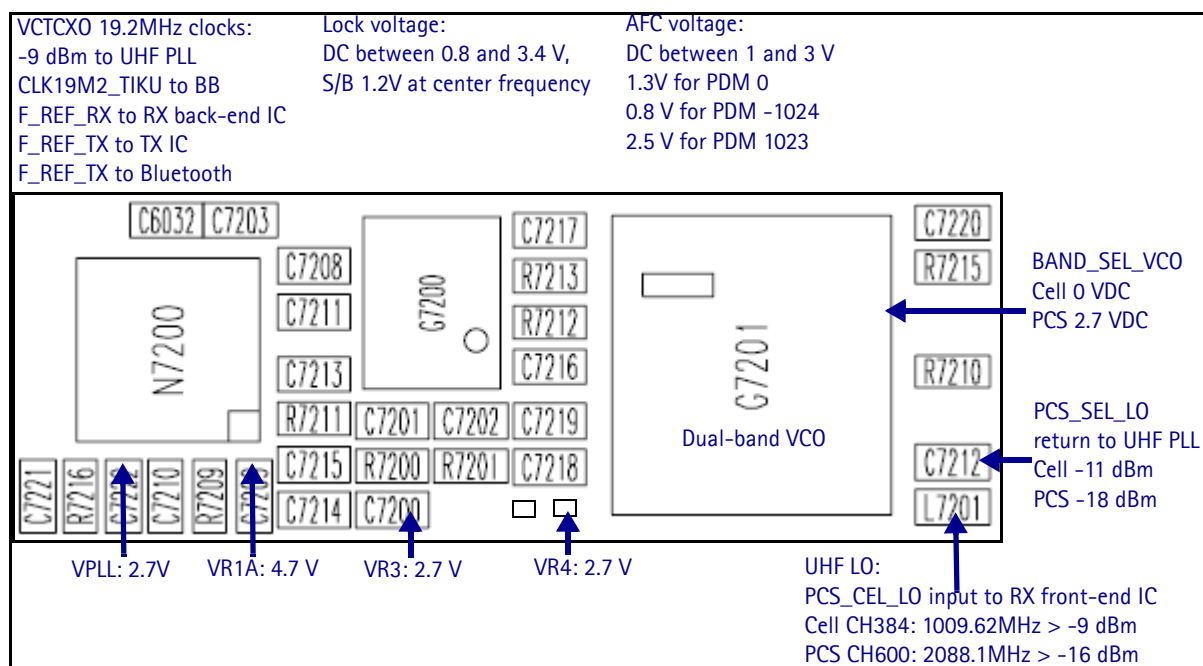

Figure 32: VCTCXO and UHF Synthesizer test points
- VCTCXO frequency is 19.2MHz. Without 19.2MHz, the mobile terminal does not power up. This signal goes to the N7100, N7000, D2800, and the UHF PLL. Check the test points in Figure 32 for the presence of the 19.2MHz signal.